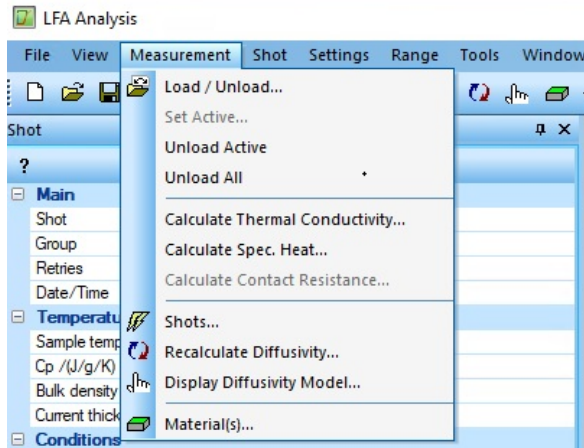

Figure 41. Calculate thermal conductivity from the Measurement tab.
- Open the Measurement tab and select Calculate Thermal Conductivity from the drop-down menu (as shown in Figure 41).